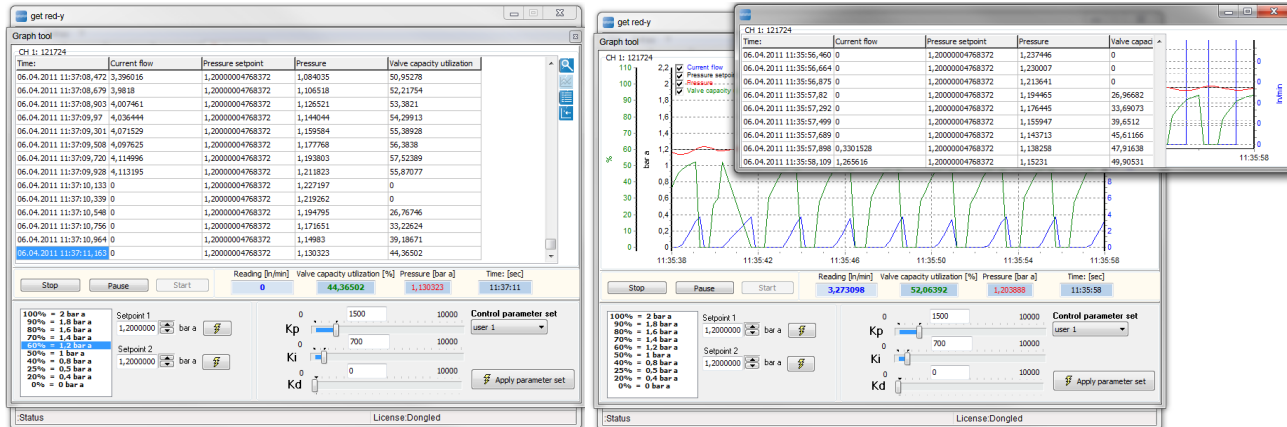

Figure 30: Representation of the measured values in tabular form (left) and representation of the data in separate windows (right).
-  The data is represented in tabular form (see Figure 30).
-  The data is represented in a separate window (see Figure 30 right). This is quite helpful if you have a second monitor or if you wish to show the data in one window as a table and in the other window as a diagram